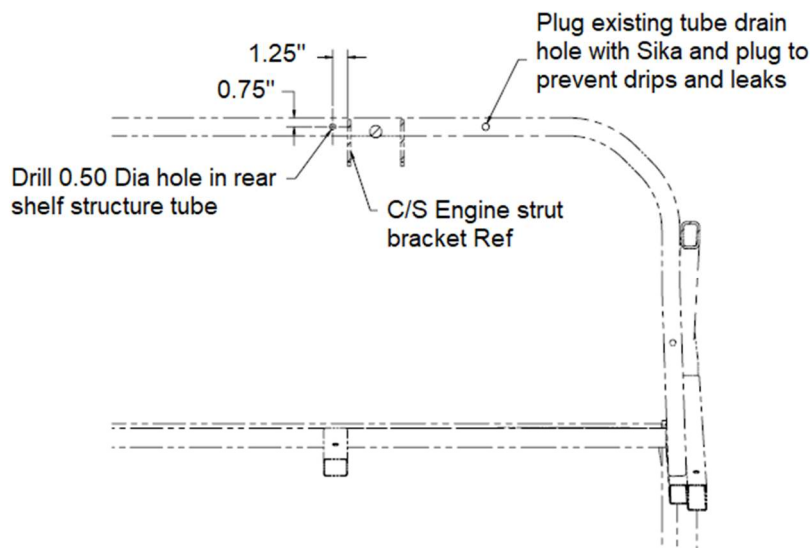

Figure 2: New Drain Hole Location
5. Drill a 0.50 Ø hole in the rear shelf structural tube above the switch box at dimensions shown in Figure 2.